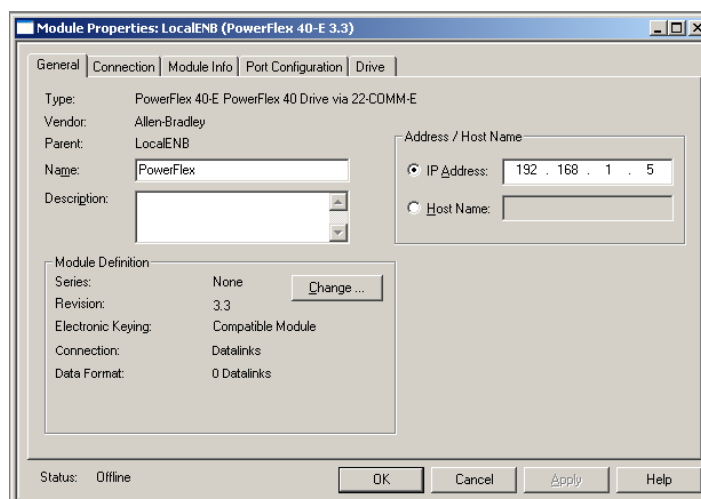

Fig. 9: Properties of the PowerFlex 40E inverter
2) Select **PowerFlex 40-E** from the list and click **OK**. The **Module Properties** dialog window is presented in Fig. 9. Enter the following parameters: